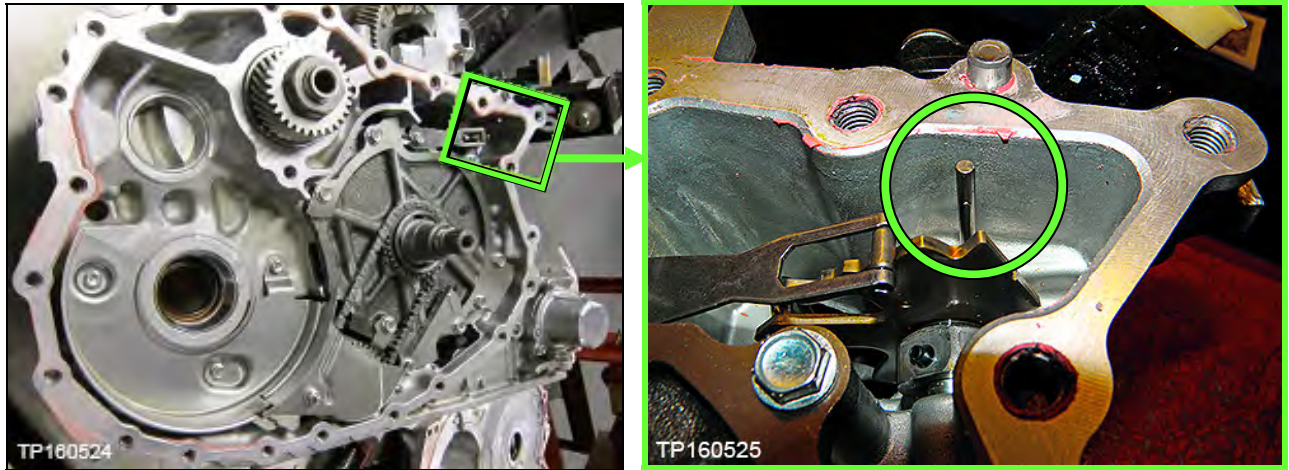

Figure 4C
3. Note the location of the pin shown in Figure 4C.